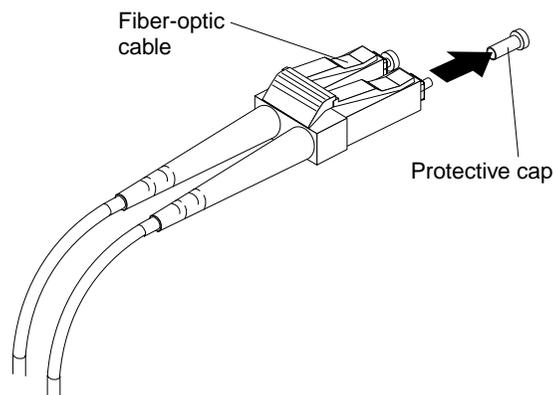

Figure 6. Removing the fiber-optic cable protective caps
3. Remove the two protective caps from one end of the LC-LC cable as shown in Figure 6. Save the protective caps for future use.
5. Remove the two protective caps from the other end of the LC-LC cable, as shown in Figure 6 on page 5. Save the protective cap for future use.